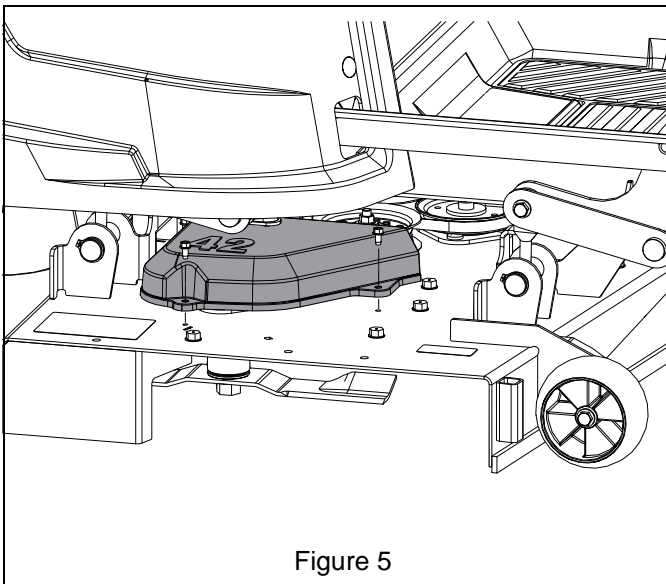

Figure 5
2. Remove three 1/4" tapping screws retaining belt cover and remove belt cover. Retain for operation without bagger attached. See Figure 5.
8. Install right belt cover on mower deck. It is not necessary to remove sheave adapter. See Figure 5.